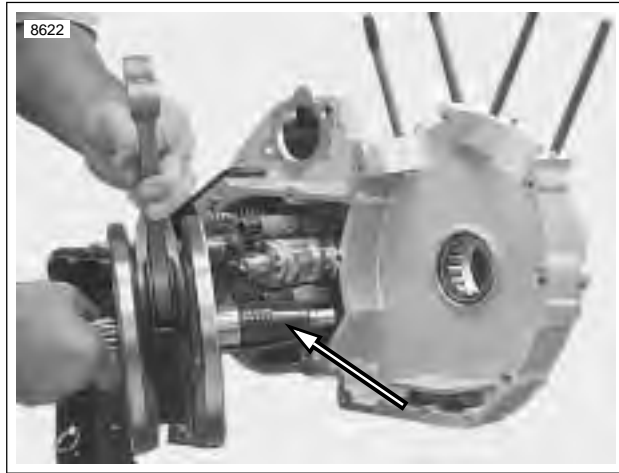

Figure 6-80. Installing Flywheel Assembly Using Crankshaft Guide Tool (Part No. HD-42326)
1. See Figure 6-80. Install the flywheel assembly into the left crankcase half using CRANKSHAFT GUIDE TOOL Part No. HD-42326.